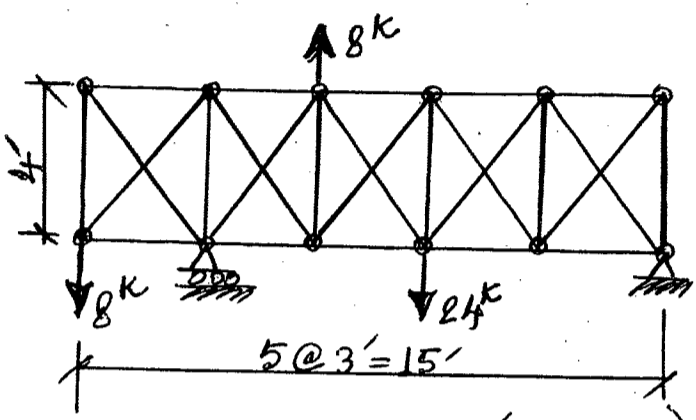

Fig. 10 (Q.no.11)
11. Using approximate method determine the bar forces in the truss shown in Fig. 10. Diagonals can carry compression. (28)